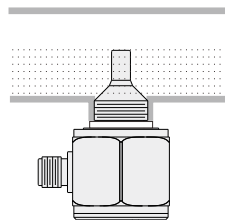

Fig. 3
- (3). When the fluid does not completely fill the pipe, SP must be installed below the pipe. And the fluid level must be higher than the tip of the SP. (See Fig. 3)